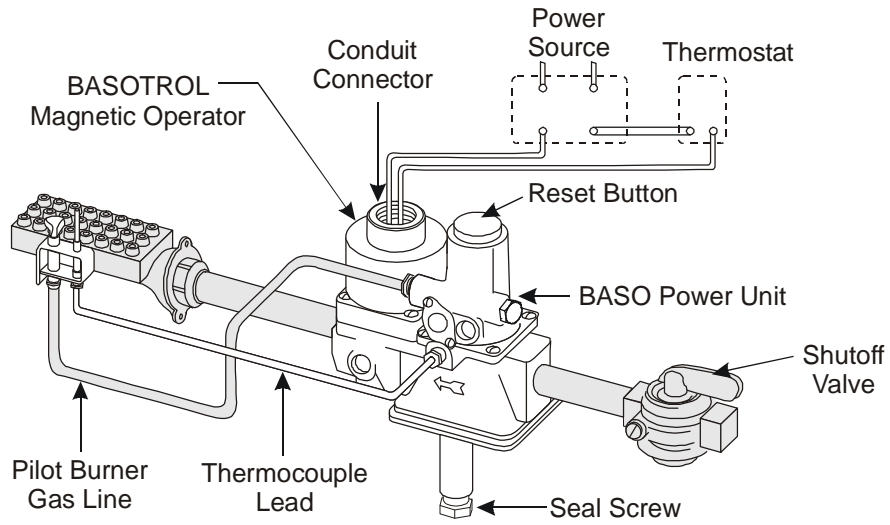
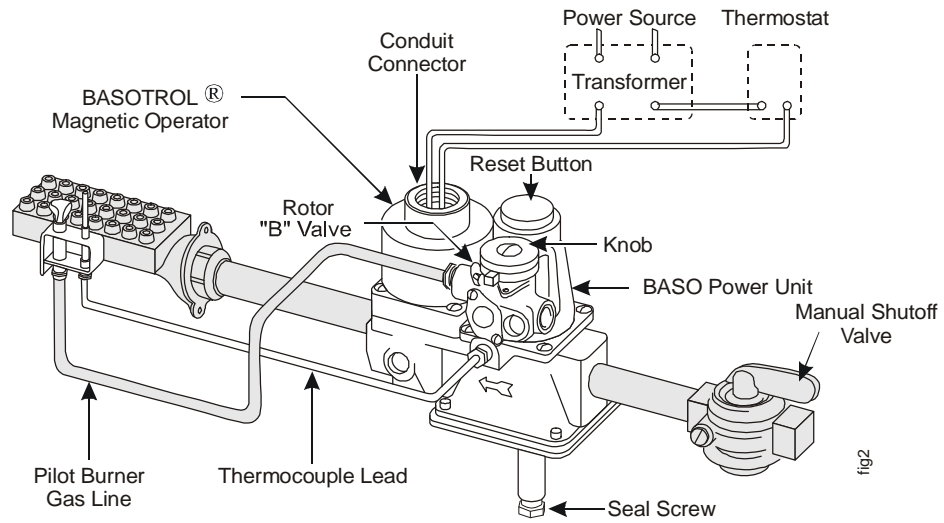

Figure 2: Typical Installation for Internal Pilot Gas Flow
Figure 3: Typical Installation Showing Internal and Rotor B Valve
On internal pilot gas valve models, plumb the pilot burner fitting to either of the pilot gas ports on the valve. Plug the unused pilot gas port on the gas valve. **See Figure 2 and Figure 3.**
5. Remove the seal screw at the end of the regulator stack (Figure 3).